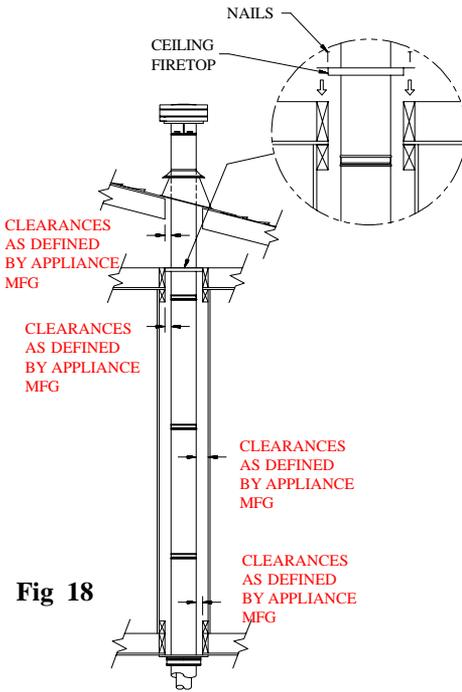

Fig 18
(1) For multi-story vertical installations, a Ceiling Firestop is required at the second floor, and any subsequent floors. (Fig 18). Cut and frame a 9" x 9" opening (10-1/2" x 10-1/2" for 5"x 8" pipe) when using the Ceiling Firestop.